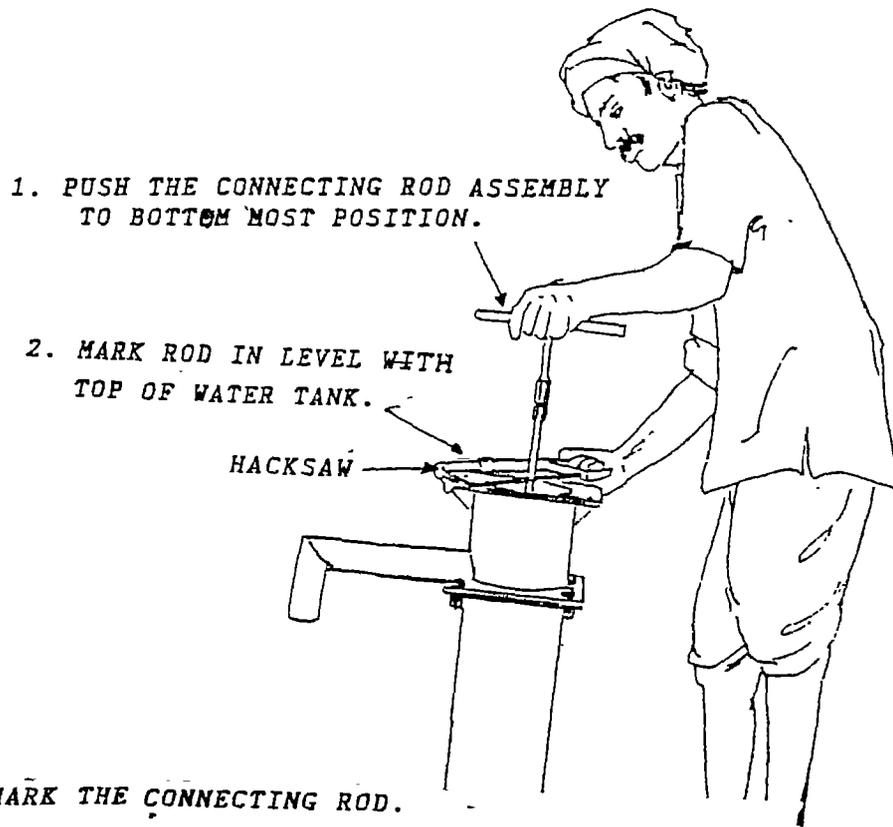

FIG:4.32 MARK THE CONNECTING ROD.
- xi) Make a mark by hack saw on the connecting rod at the level of water tank. (Fig. 4.32)